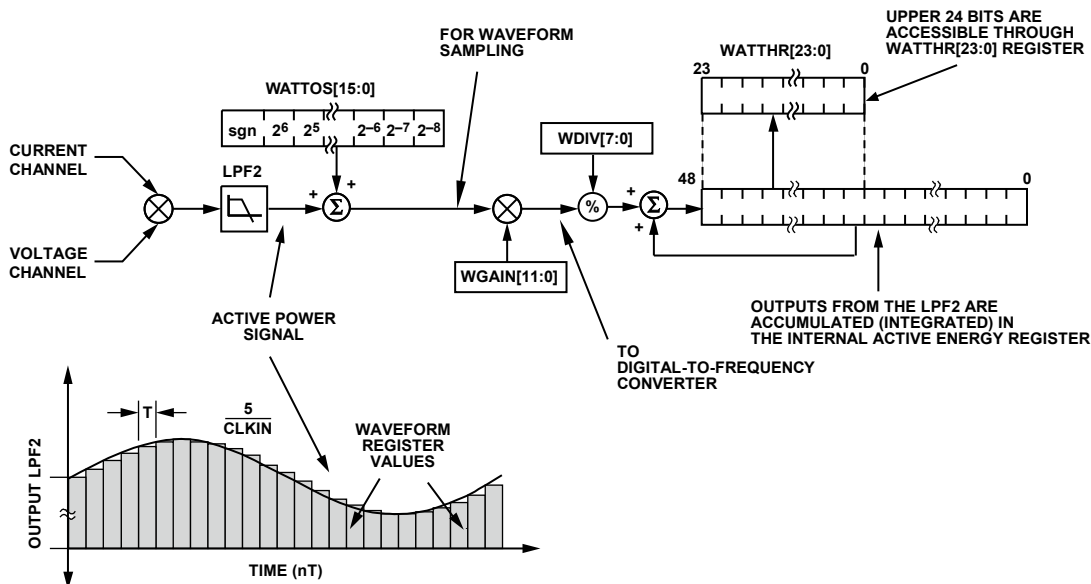

Figure 66. Active Energy Calculation
Figure 66 shows the signal processing chain for the active power calculation in the ADE7116/ADE7156/ADE7166/ADE7169/ADE7566/ADE7569. The active power is calculated by filtering the output of the multiplier with a low-pass filter. Note that, when reading the waveform samples from the output of LPF2, the gain of the active energy can be adjusted by using the multiplier and watt gain register (WGAIN[11:0], Address 0x1D). The gain is adjusted by writing a twos complement 12-bit word to the watt gain register. Equation 12 shows how the gain adjustment is related to the contents of the watt gain register.
The discrete time sample period (T) for the accumulation register in the ADE7116/ADE7156/ADE7166/ADE7169/ADE7566/ADE7569 is 1.22 μ s (5/MCLK). In addition to calculating the energy, this integration removes any sinusoidal components that may be in the active power signal. Figure 66 shows this discrete time integration or accumulation. The active
The output of the multiplier is divided by the value in the WDIV register (Address 0x24). If the value in the WDIV register is equal to 0, the internal active energy register is divided by 1. WDIV is an 8-bit, unsigned register. After dividing by WDIV, the active energy is accumulated in a 49-bit internal energy accumulation register. The upper 24 bits of this register are accessible through a read to the active energy register (WATTHR[23:0], Address 0x01). A read to the RWATTHR register (Address 0x02) returns the contents of the WATTHR register, and the upper 24 bits of the internal register are cleared. As shown in Figure 66, the active power signal is accumulated in an internal 49-bit signed register. The active power signal can be read from the waveform register by setting the WAVMODE register (Address 0x0D) and setting the WFSM bit (Bit 5) in the Interrupt Enable 3 SFR (MIRQENH, Address 0xDB). Like the current and voltage channels waveform sampling modes, the waveform data is available at sample rates of 25.6 kSPS, 12.8 kSPS, 6.4 kSPS, and 3.2 kSPS.